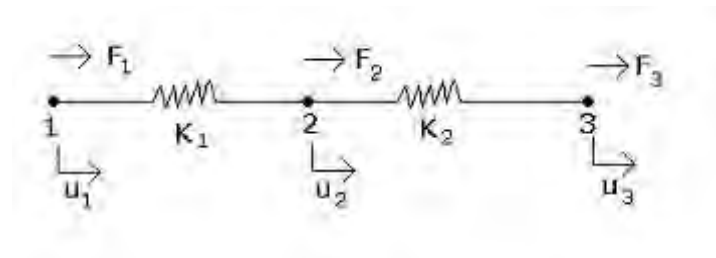

Figure 4
4. For a system of two springs shown in figure 4, Derive the system stiffness matrix and displacements at all node points. [16]